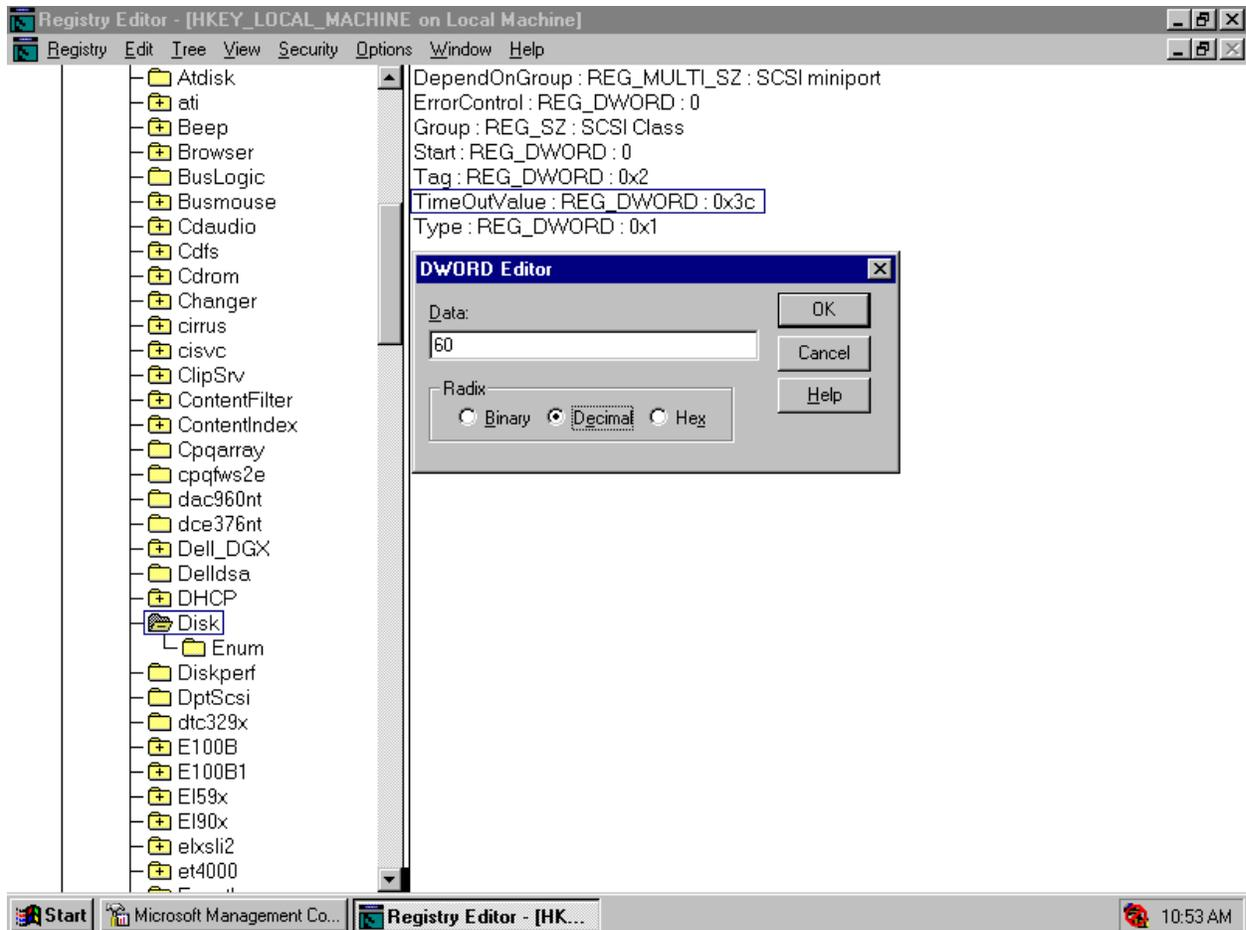

Figure 2.3 Verifying/Setting the Disk I/O TOV Using the Registry Editor
Verify the disk I/O TOV using the Registry Editor as follows (see Figure 2.3):
2. Display the disk parameters as follows: go to **HKEY\_LOCAL\_MACHINE** → **SYSTEM** → **CurrentControlSet** → **Services** → **Disk** (see Figure 2.3).